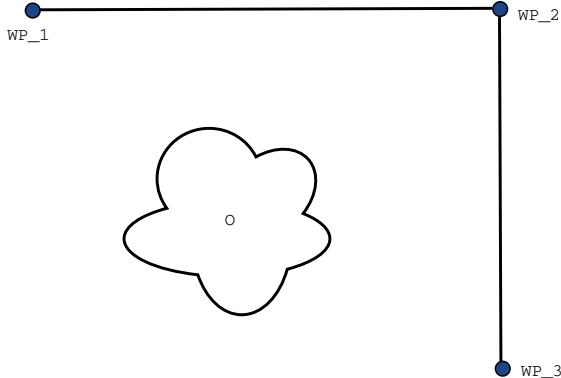

Figure 16.2: WP\_1: initial position, WP\_2: via point, WP\_3: pick up position, O: obstacle.
**Example** Consider a pick and place application as an example (see figure 16.2), where the robot is currently at Waypoint 1 (WP\_1), and it needs to pick up an object at Waypoint 3 (WP\_3). To avoid collisions with the object and other obstacles (0), the robot must approach WP\_3 in the direction coming from Waypoint 2 (WP\_2). So three waypoints are introduced to create a path that fulfils the requirements.